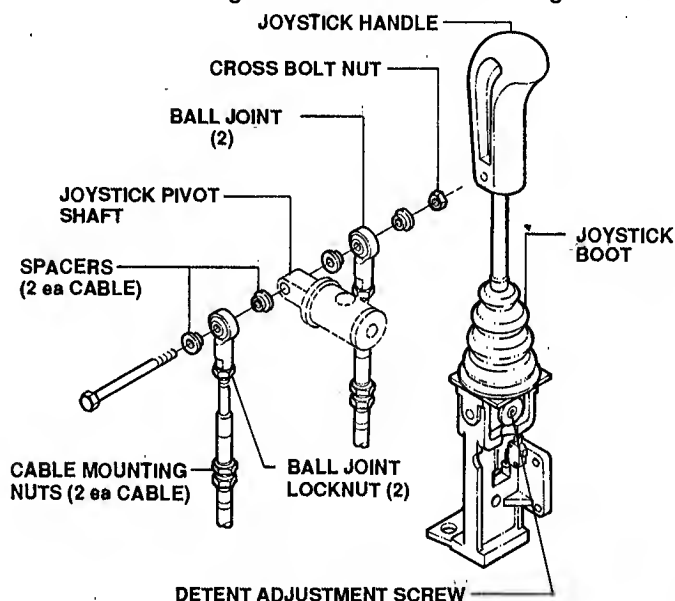

FIGURE 4.6
- A. If joystick does not lock in the "UP" position, turn the detent adjustment screw clockwise until a desirable locking action is obtained. See Figure 4.6.